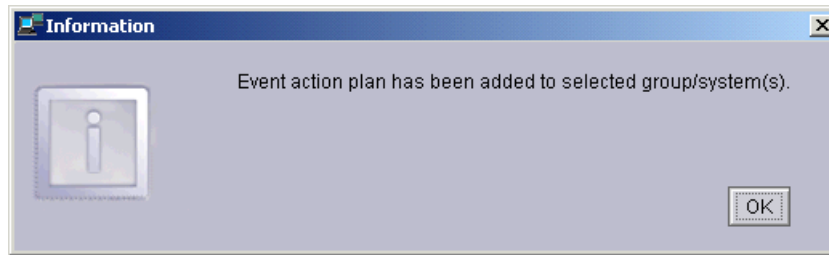

Figure 5-9 Event action plan added
15. In either case, a pop-up window will appear notifying you that the event action plan has been added (Figure 5-9 on page 133).